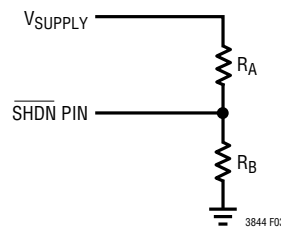

Figure 3. Undervoltage Lockout Circuit
When laying out the printed circuit board, the following checklist should be used to ensure proper operation. These items are illustrated graphically in the layout diagram of Figure 3.
5. Locate the  $V_{CC}$  and BOOST capacitors in close proximity to the IC. These capacitors carry the MOSFET driver's high peak currents. Place the small signal components away from high frequency switching nodes (BOOST, SW and TG). In the layout shown in Figure 3, place all the small signal components on one side of the IC and all the power components on the other. This helps to keep the signal and power grounds separate.